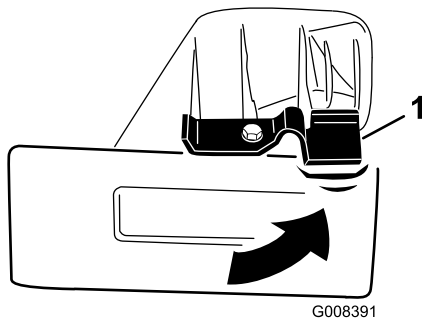

Figure 25
2. Rotate the lock counterclockwise on the mulch plug to the unlocked position (Figure 25).